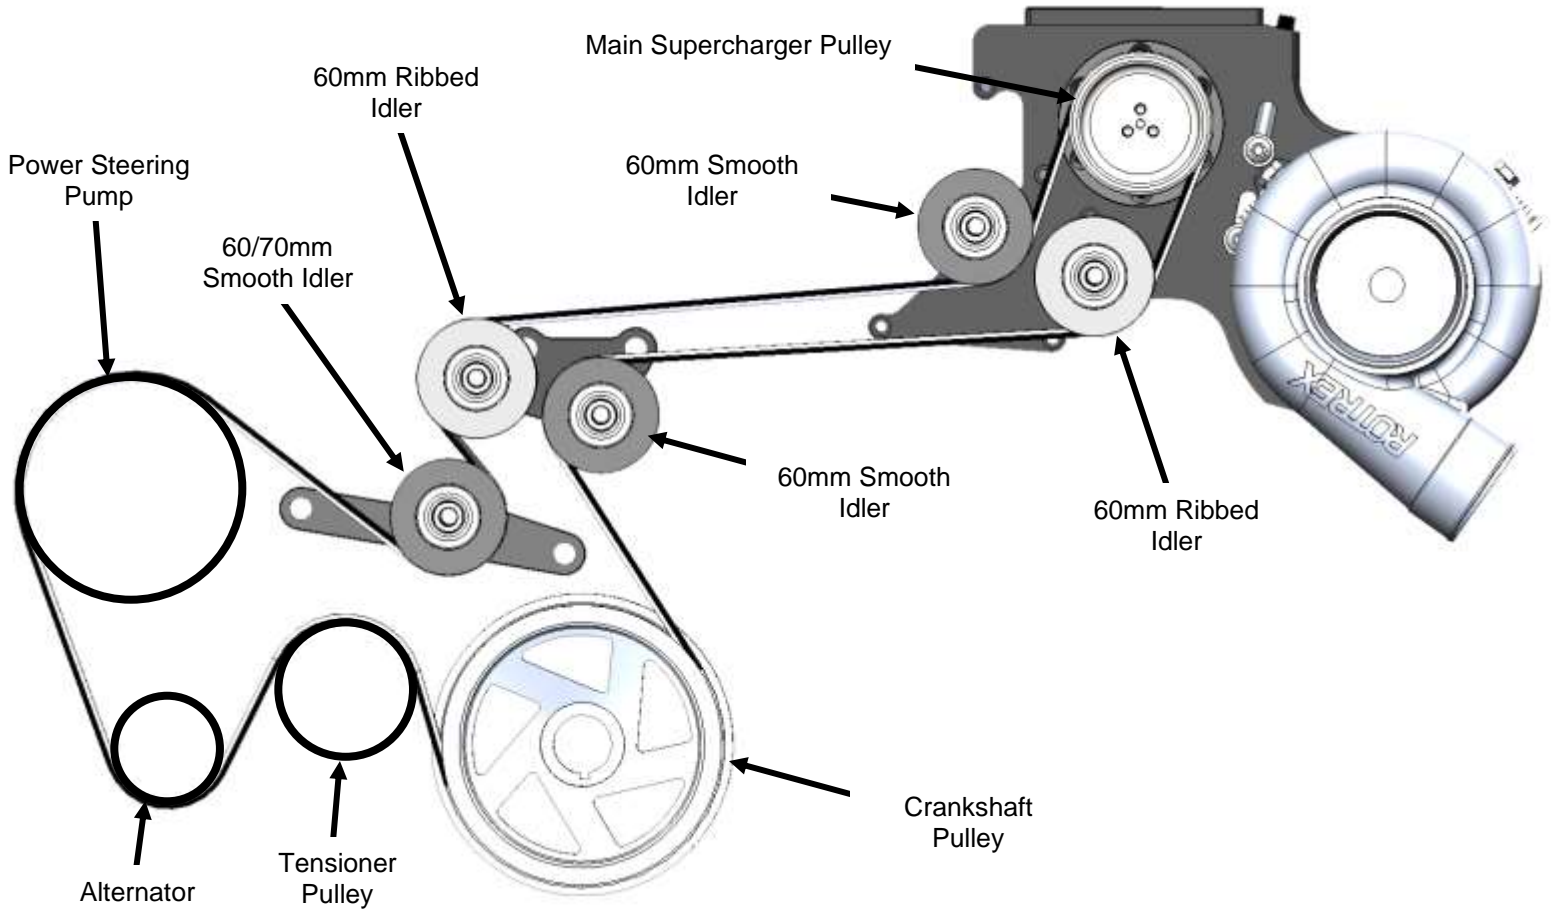

Figure 48
13. Locate the Z1 Supercharger Drive Belt (#48). Route the belt as shown below. It can be easier to install the belt by removing the Smooth Pulley on the Main Supercharger Bracket and reinstalling it after the belt is routed. *Figure 48.*